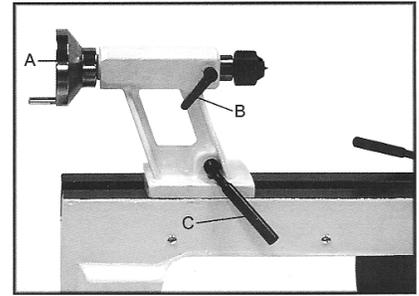

Fig 9
Turn the hand wheel (A, Fig 9) clockwise to move tailstock spindle forward. Lock spindle with the indexable knob (B).